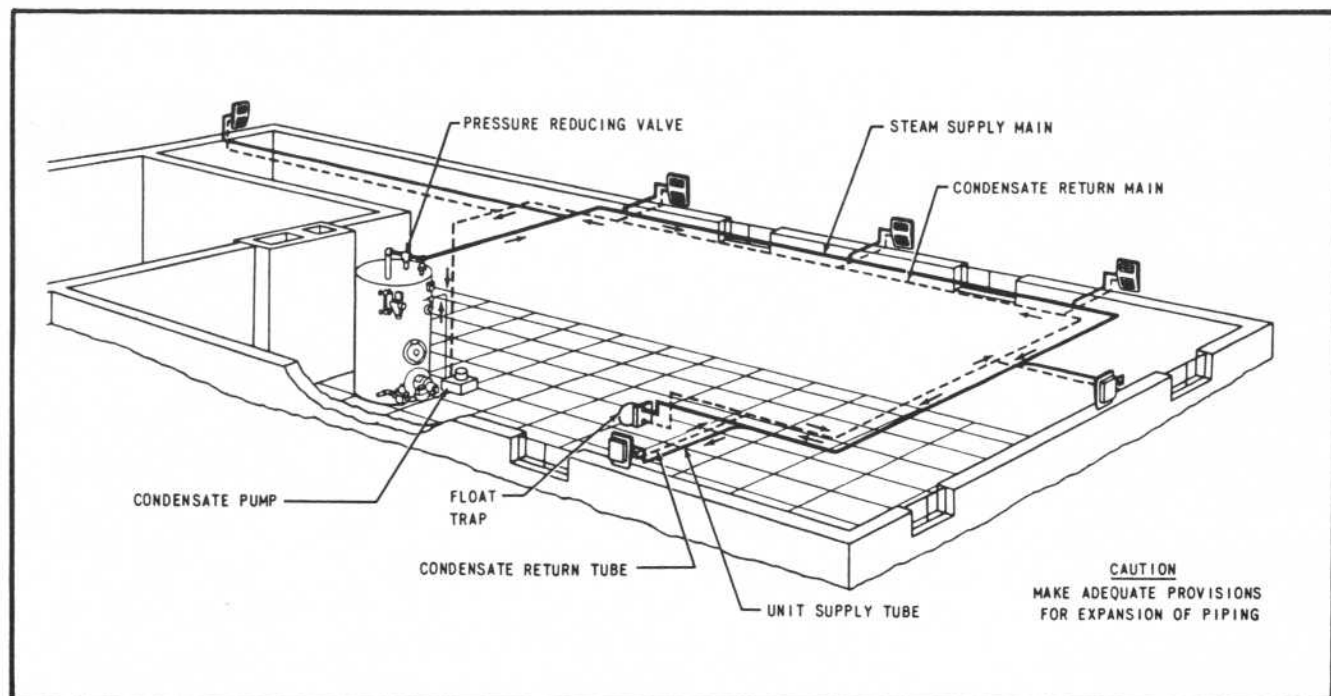

Figure 1 - Perimeter Main System - Up-Feed to Units With Tubing Take-Offs
- a. PERIMETER MAIN, UP-FEED TO UNITS (Figure 1 and 2.) This system employs a return main generally parallel to the supply.